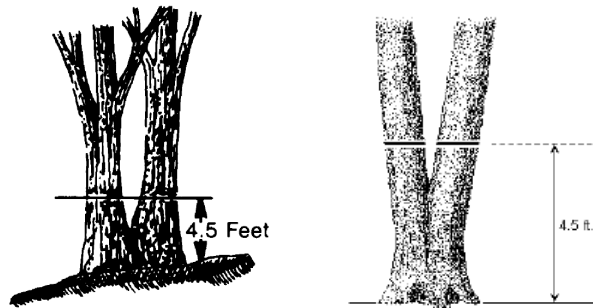

Figure 2 - Fork Occurs Below 4.5 Feet
- a. Trees forked below 4.5 feet: When a tree forks below 4.5 feet, consider as two trees and measure DBH on each stem at 4.5 feet above ground on the high side (Figure 2).
3. Stump Sprouts: Stump sprouts originate between ground level and 4.5 feet on the boles of trees that have died or been cut. Stump sprouts are handled the same as forked trees (Figures 2 – 4).